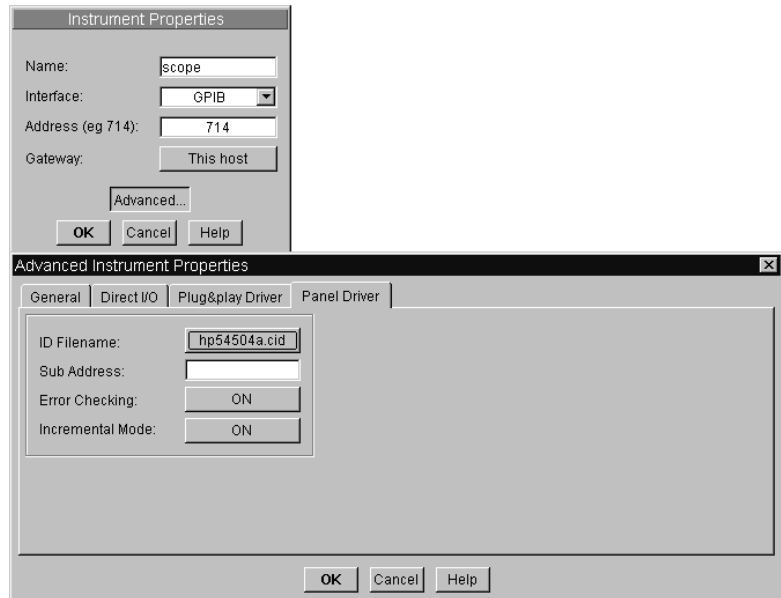

Figure 85 The Panel Driver Folder
- 4** Toggle Live Mode to OFF. Then click the Panel Driver folder, and the dialog box appears as shown in Figure 85.
- 6 Scroll down the list to highlight **hp54504a.cid**, then click **Open**. Figure 85 shows this instrument already selected. You can also double-click on a highlighted file to select it.